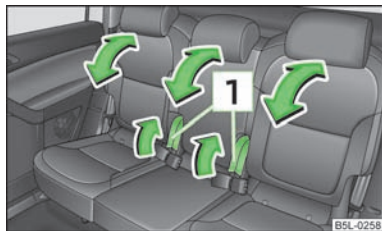

Fig. 49
- › Pull the lever **1** » Fig. 49 and adjust the required inclination of the seat backrest.
- › Pull on the lever **1** » Fig. 49 and fold the seat backrests of the outer rear seats onto the seat cushion as far as the stop.
- › Fold the middle rear seat backrest forwards in the same way, then pull once more on the lever **1** » Fig. 49 and press the seat backrest downwards until it is heard to lock into a lower position.